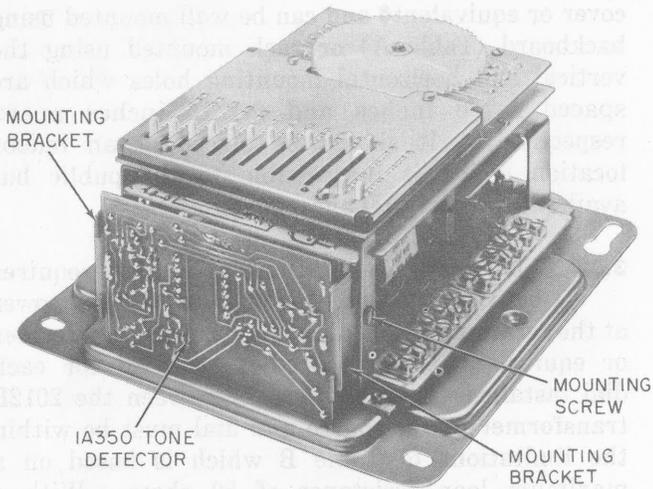

Fig. 3—1A350 Tone Detector, Installed
3.05 The 1A350 tone detector circuit board is added to the basic 43A dial in the position shown in Fig. 3. Use brackets and mounting screws furnished with detector to fasten board as described in detailed instruction sheet packed with each detector. Table D gives spade-tipped lead connections. References to a call button may be disregarded when the 1A350 tone detector is used unless both are desired.